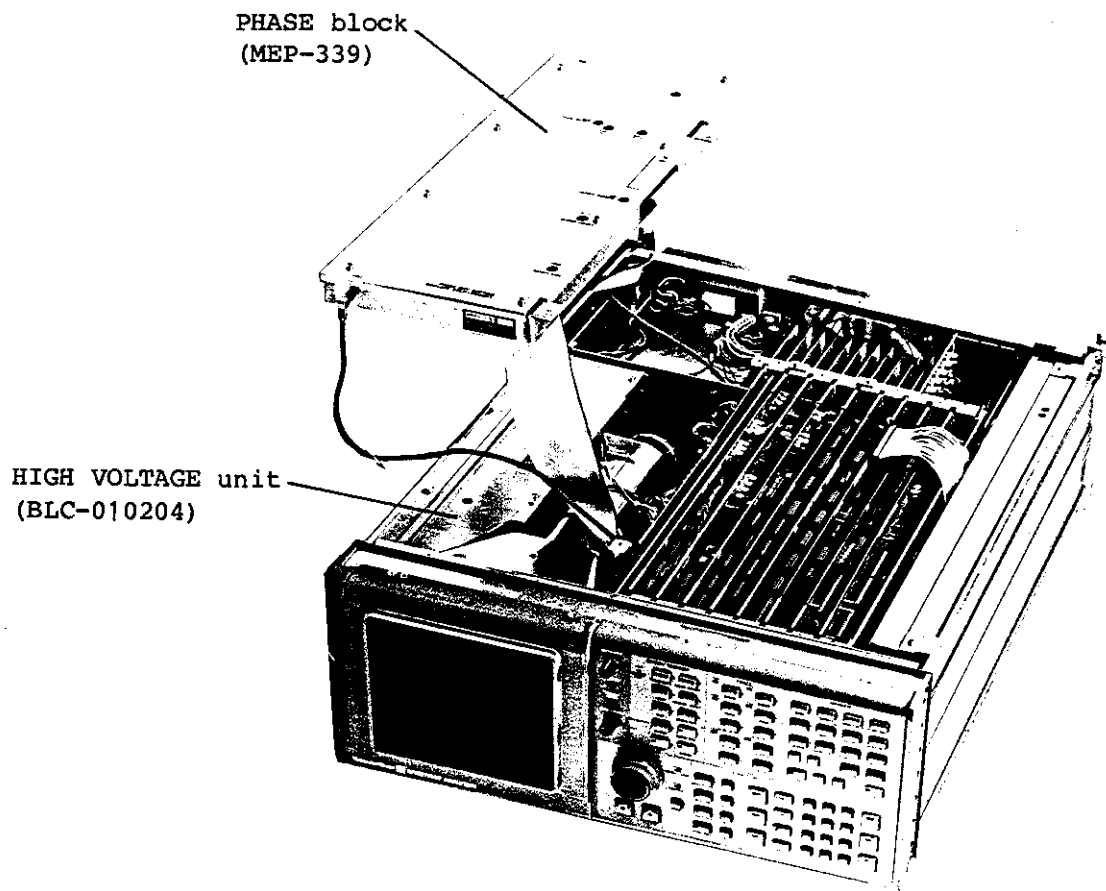

Fig. 11-3 Removing the phase block (MEP-339)
- ① Set the POWER switch to STANDBY.
- ② Remove Phase block (MEP-339) from the instrument. (See Figure 11-3.)